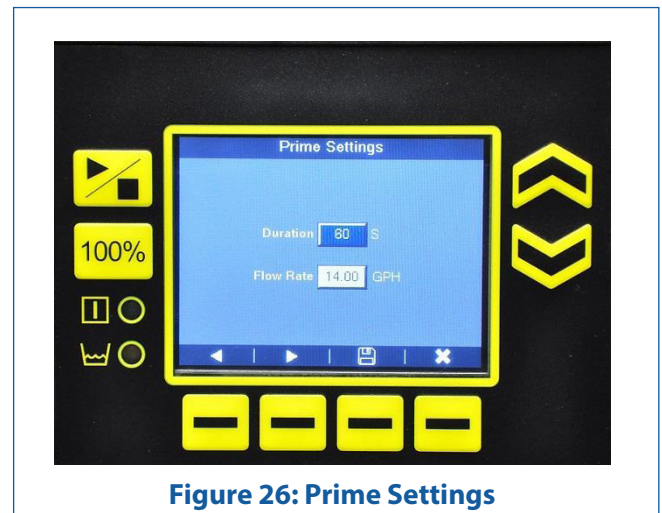

Figure 26: Prime Settings
1. From the Settings screen, select **Prime Settings** (Figure 26).